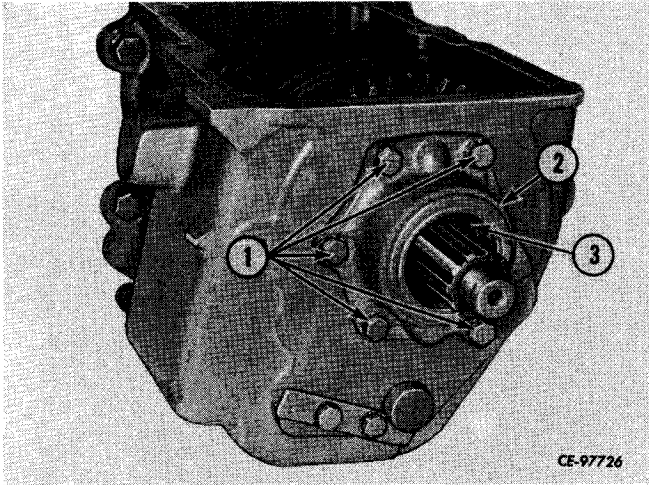

Figure 4-29
Remove cap screws and lock washers (1, Fig. 4-29) separating bearing retainer (2) and gasket from transmission housing. Remove spacer (3).